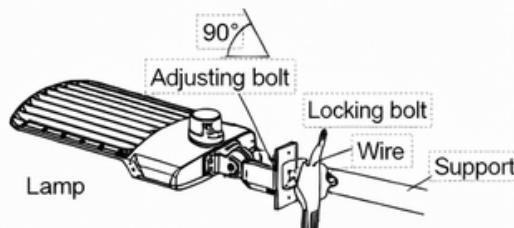

Figure 14
Step 3: Place the bracket into the pole and lock the four bolts. (Figure 14)
Notice: Adjustable angle is 0~90°(Figure 14)